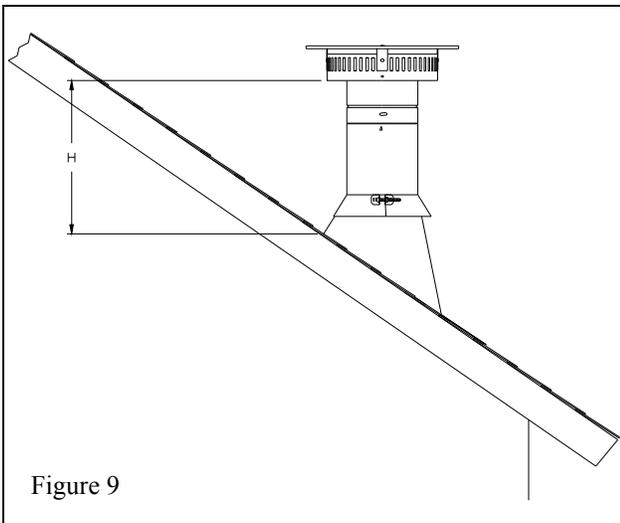

Figure 9
- Continue installing galvalume vent lengths until you reach the vent height needed to provide the minimum clearances. See Table II and figure 9 below. Roof braces (model # SV0ØBS) will be required for vent height over five (5) feet above the roof.